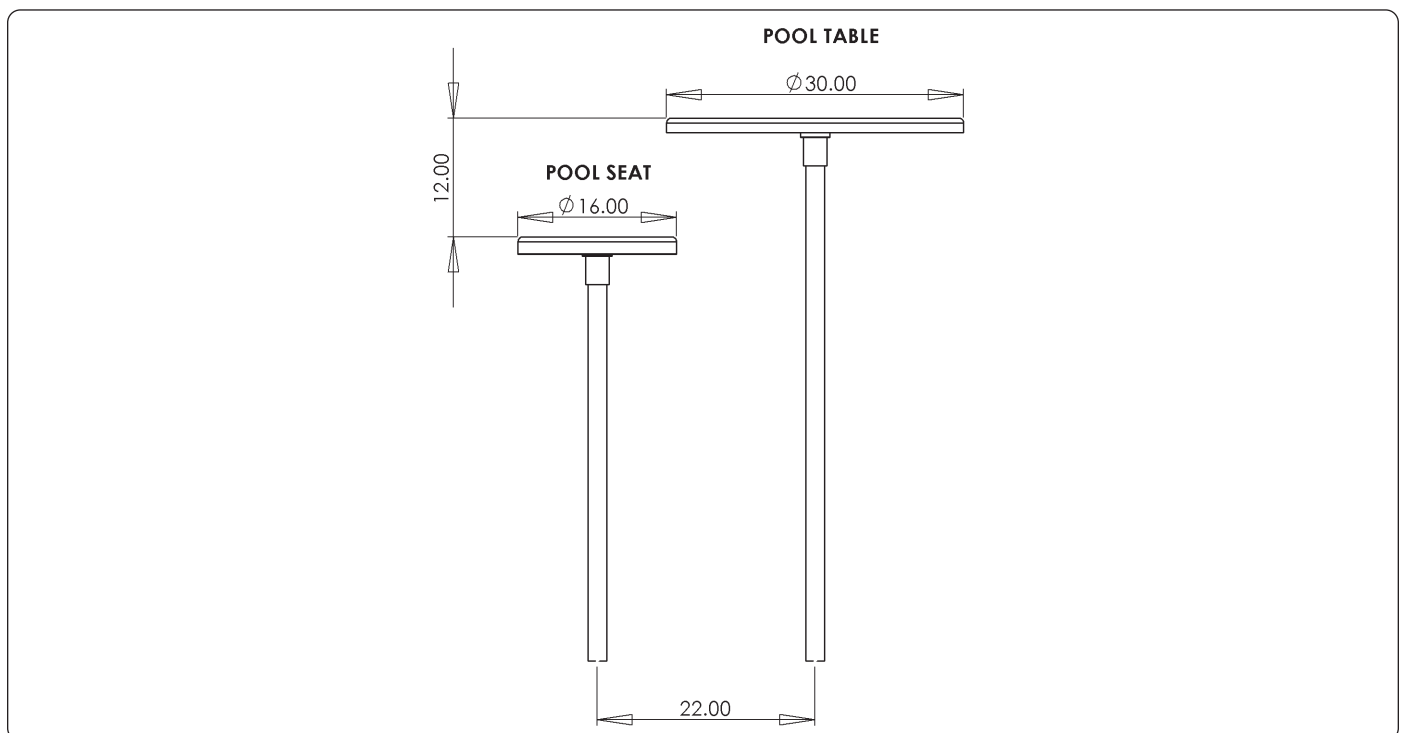

Figure 8: Pool/Spa Table & Seat Recommended Placement Diagram
2. Locate a proper installation location within the pool or spa. **NOTE: When installing with a Pool/Spa Table, See Figure 8 for suggested placement.**